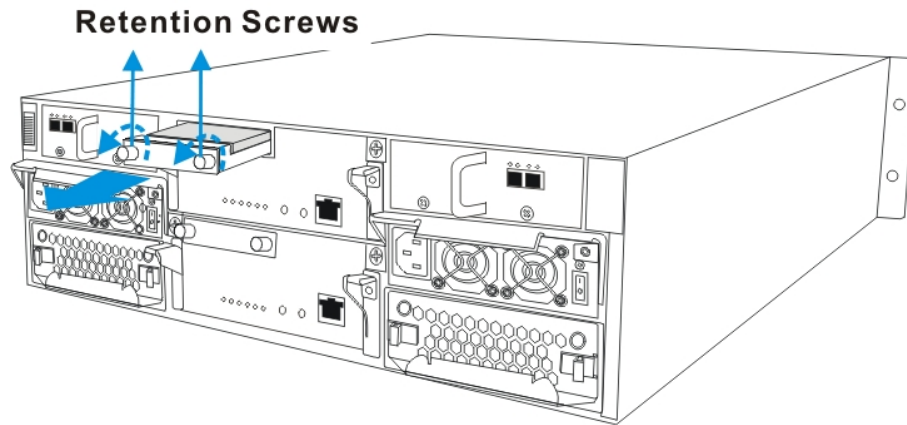

Fig. 2.1 Removing the BBU
1. Remove the faulty BBU from the chassis. The BBU is located on the upper left corner of each controller module. Loosen the two (2) retention screws located on both sides of the BBU rear panel, then pull out the BBU. (See Figure 2.1.)